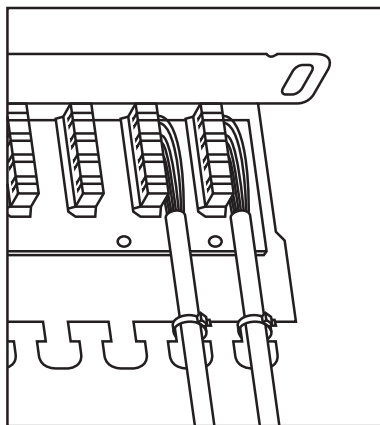

Figure 6. Repeating the installation for remaining ports.
7. Repeat Steps 1–6 for the remaining ports. See Figure 6.